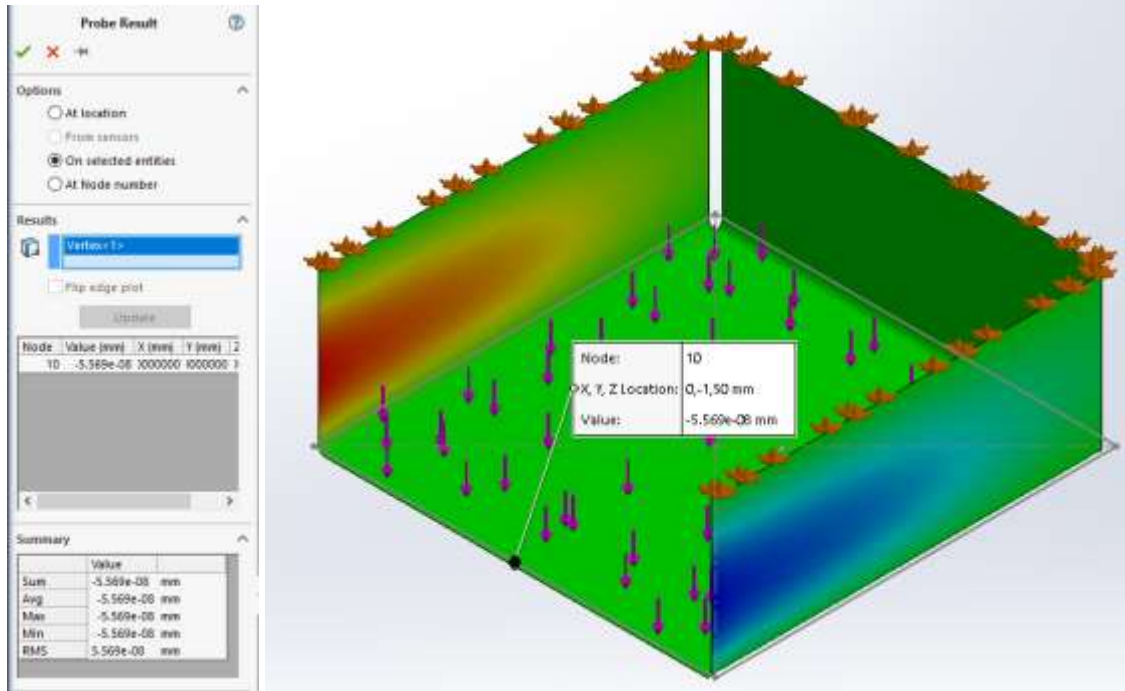

Figure 16
- Click *Plot Tools>Probe*. In the *Probe results* tab select *On selected entities* and click on the node indicated in Figure 16 and click *update* in the *Probe Results* tab. From here we find the X displacement at this point. In this case, in Figure 16, the X displacement at the selected point is $-5.569e-08$ mm.
12. Take a similar screen shot of your model (as shown in Figure 16) and include it in your HW10 submission with a brief caption.